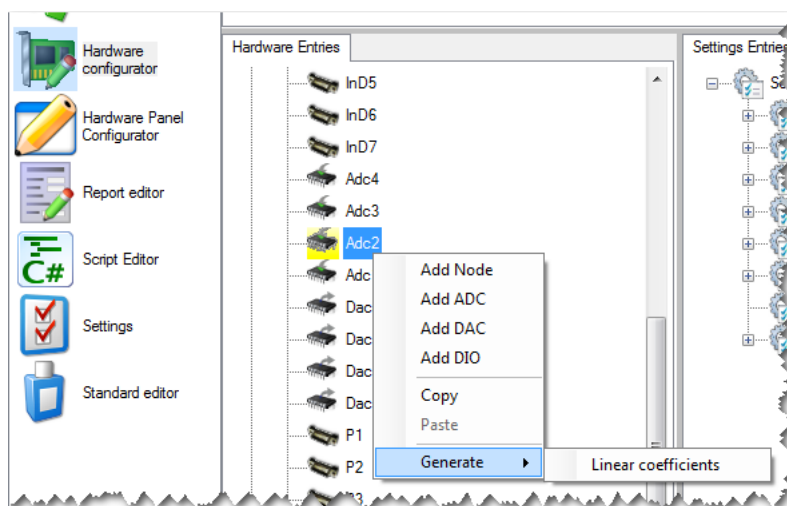

Figure 3-32. Shortcut menu of hardware entry
13. Right-click your hardware entry to show the shortcut menu. Select **Generate > Linear coefficients** to set the right conversion parameters, see Figure 3-32.